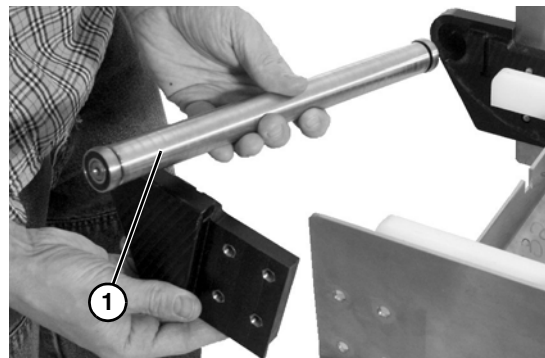

Figure 50
6. Slide off idler roller bearing assembly (**Figure 50, item 1**).